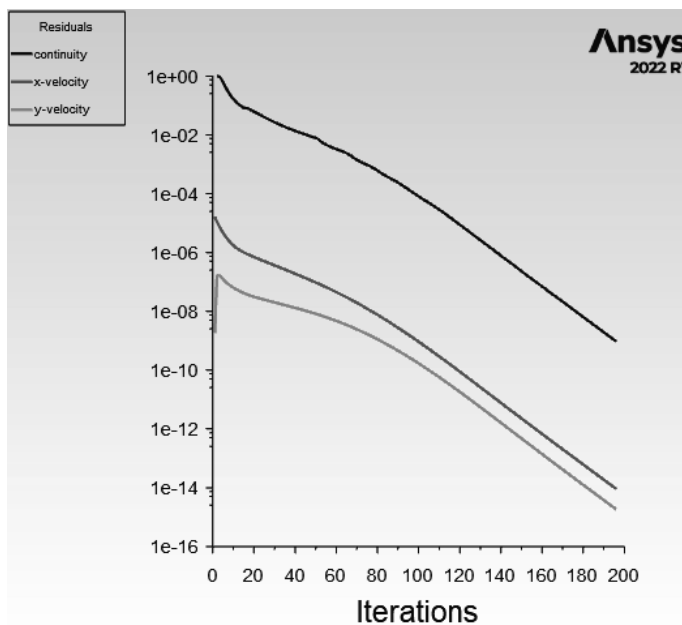
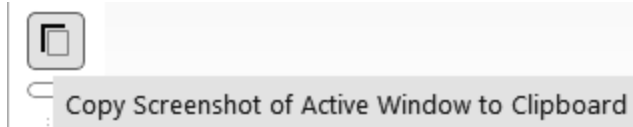

Figure 2.12b) Scaled Residuals
Figure 2.12c) Copying screenshot
**Why did we set the Absolute Criteria to  $1e-9$ ?** Generally, the lower the absolute criteria, the longer time the calculation will take and give a more exact solution. We see in Figure 2.12b) that the *x-velocity* and *y-velocity* equations have lower residuals than the continuity equation. The slopes of the residual curves for all three equations are about the same with a sharp downward trend.
12. Double click on Run Calculation under Solution and enter 5000 for *Number of Iterations*. Click on the *Calculate* button. The calculations will be complete after 196 iterations, see Figure 2.12b). Click on Copy Screenshot of Active Window to Clipboard, see Figure 2.12c). The Scaled Residuals can be pasted into a Word document.